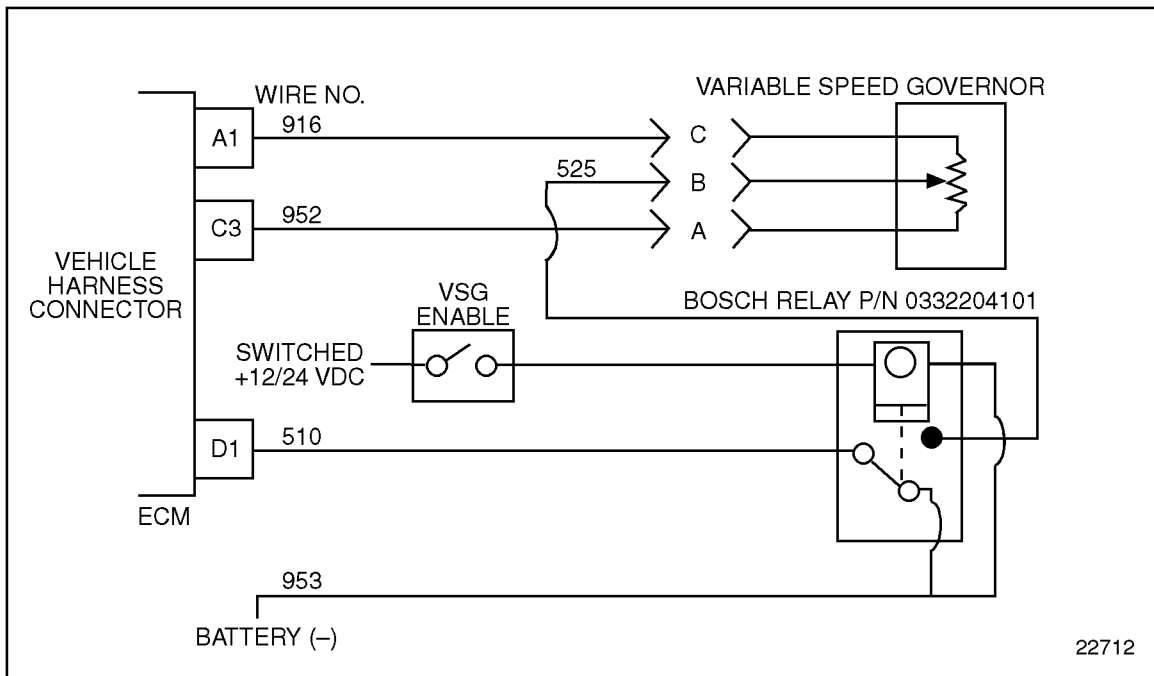

Figure 11-6 Variable Speed Governor Circuit
See Figure 11-6.
1. Install a jumper wire between sockets A and C of the hand throttle sensor harness connector. See Figure 11-6.